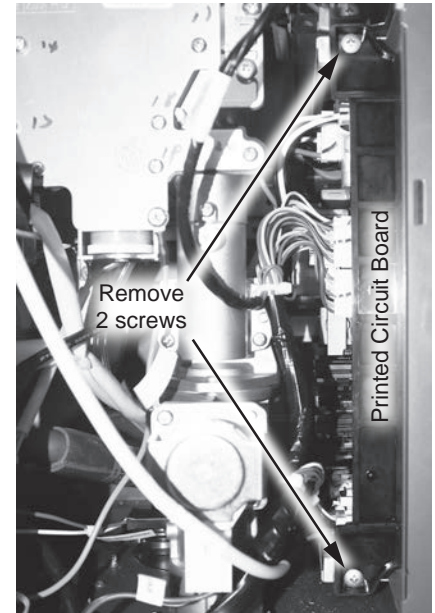

Figure 53 - Removing PCB screws
- 4 Locate the Printed Circuit Board on the right side of the water heater. Use a Phillips screwdriver to remove the two screws securing the PCB. Place screws aside in a safe place for reinstallation. See Figure 53.